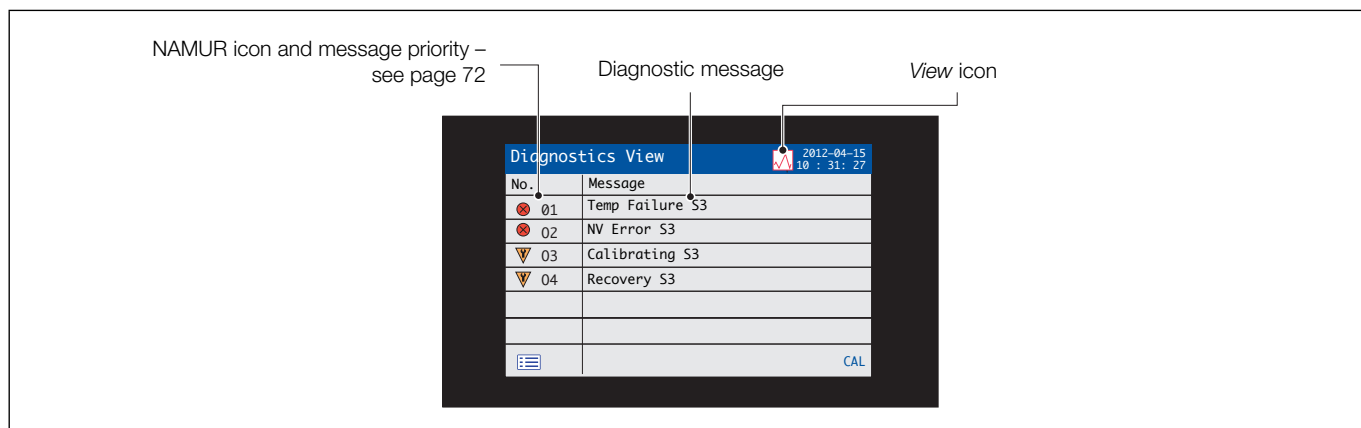

Fig. 6.6 *Diagnostics View*
- *Diagnostics View* – displays a list of diagnostic messages identified by priority and message – see Fig. 6.6